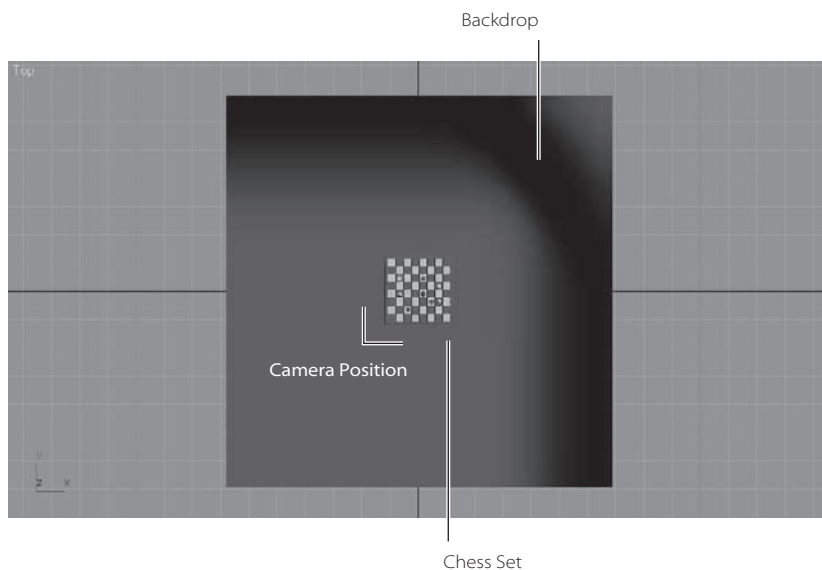

Figure 11.15
1. Set your project to the Rendering Scene Files project you have copied to your hard drive from the CD. Open the Camera Create.max scene file in the Rendering Scene Files folder on the CD. This is the chessboard from the lighting chapter, but without a camera. Creating a camera is the same as creating a light. It’s easier to create a camera in the Top viewport, so you can easily orient it in reference to your scene objects. Figure 11.15 shows the intended position of a camera for this scene.